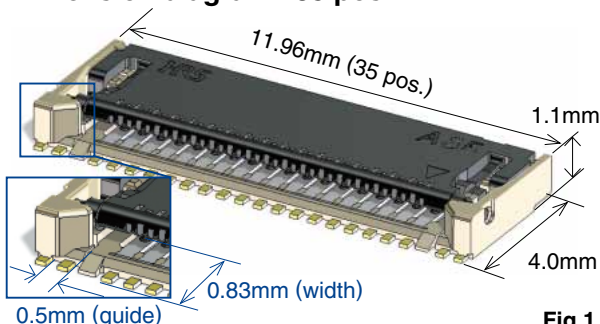

Fig.1
- Space saving design with 0.25mm pitch, 4.0mm width. (Fig.1)
- Wide guide for easy FPC insertion easy. (Fig.1)
Figure 1: Dimensions of the connector. The diagram shows a top-down view of a connector with two rows of contacts. Key dimensions include: overall width (0.8 ± 0.02), contact pitch (0.5), contact width (0.3 ± 0.02), and contact height (0.6). The drawing also indicates the number of contacts (n-1)/2x and (n+1)/2x, and the total length (C ± 0.02). A 'Connector image' label points to the mirrored contact layout.
Figure 1 is a detailed technical drawing of a land pattern image. It shows a series of rectangular land patterns arranged in two rows, separated by a central gap. The drawing includes various dimensions and labels: